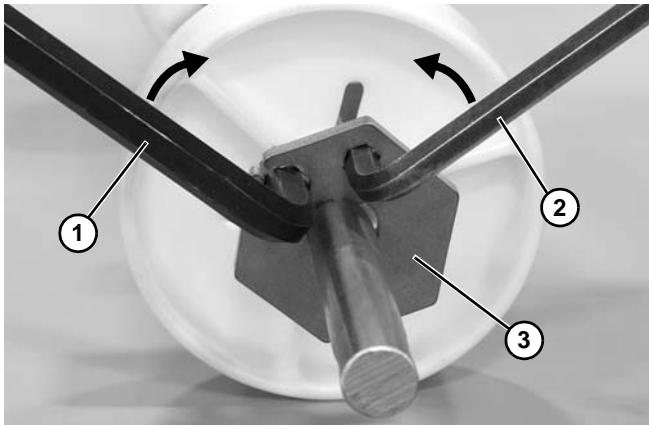

Figure 122
5. Insert an 8 mm (**Figure 122, item 1**) and 6 mm (**Figure 122, item 2**) hex wrench into the retainer plate.
6. Move wrenches toward each other to unlock the retainer plate (**Figure 122, item 3**) and remove from the shaft.